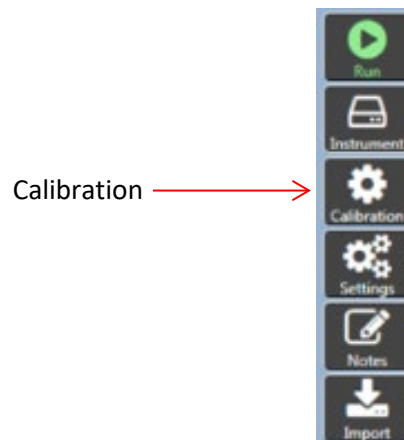

Figure 53: Sidebar Column on TESC Software
1. Click **Calibration** from the TESC software sidebar column. Refer to Figure 53.